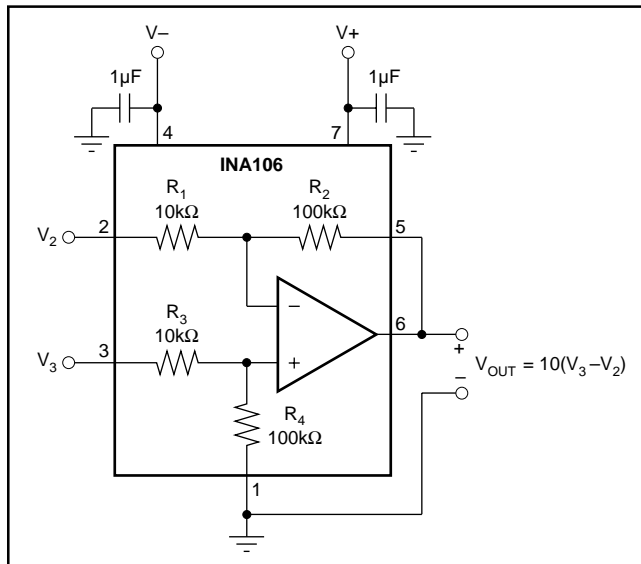

FIGURE 1. Basic Power Supply and Signal Connections.
NOTES: (1) Connected as difference amplifier (see Figure 1). (2) Nonlinearity is the maximum peak deviation from the best-fit straight line as a percent of full-scale peak-to-peak output. (3) With zero source impedance (see "Maintaining CMR" section). (4) Includes effects of amplifiers' input bias and offset currents. (5) Includes effect of amplifier's input current noise and thermal noise contribution of resistor network.
Figure 1 shows the basic connections required for operation of the INA106. Power supply bypass capacitors should be connected close to the device pins as shown.
Referring to Figure 1, the CMR depends upon the match of the internal  $R_4/R_3$  ratio to the  $R_1/R_2$  ratio. A CMR of 106dB requires resistor matching of 0.005%. To maintain high CMR over temperature, the resistor TCR tracking must be better than  $2\text{ppm}/^\circ\text{C}$ . These accuracies are difficult and expensive to reliably achieve with discrete components.